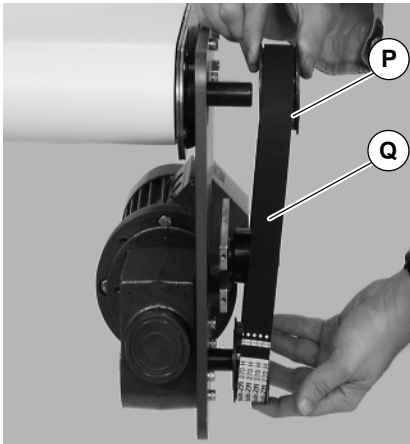

Figure 20
- c. Remove pulley (P of Figure 20) and timing belt (Q).